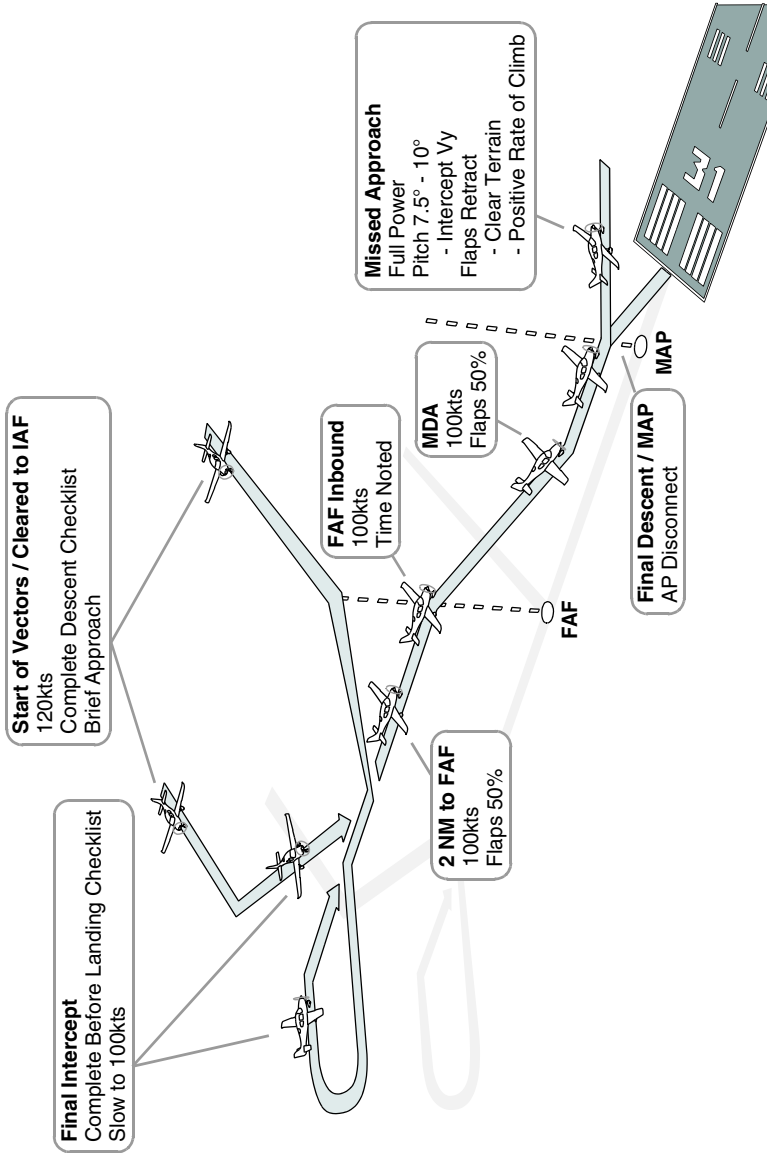

Figure 3-4
**Non Precision Approach Procedure (See Figure 3-4)**